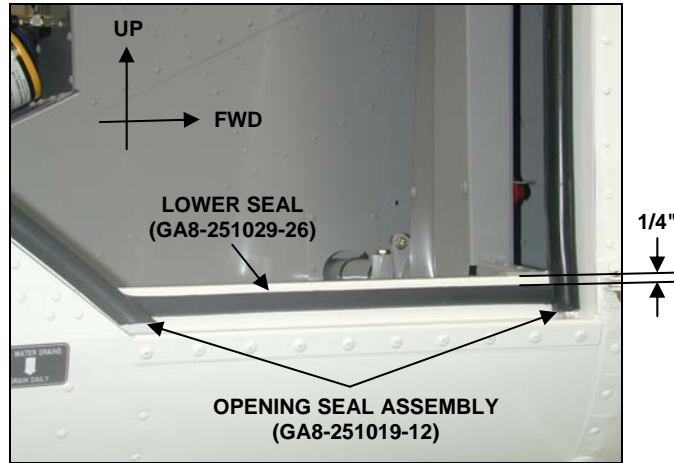

Figure 1: New seals installed in the lower section of the door opening (right hand side shown).
3. Locate and install the opening seal assembly (left hand side P/N GA8-251019-11, right hand side P/N GA8-251019-12) over the door seal angles from the lower forward to lower aft corners of the door opening, using Dow Corning Silastic 747 Silicone RTV Adhesive/Sealant as the bonding agent injected into the channel between the attach flange and D section of the seal, similar to the installation shown in Figures 1, 2 and 5. Locate and bond the seal assembly join into the upper aft corner of the door opening and the trimmed end sections flush against the outboard face of the door sill, and ensure there is a 1/8" gap between the seal ends and the bottom of the door sill. Locate the trimmed section of seal attach flange along the aft side of the door opening to clear the door striker plate, and ensure that the striker plate door locking surface is free of adhesive and there is no fouling of the door latch or locking ability. Trim the edge of the seal around the striker plate as required. Smooth the seal attach flange to remove wrinkles.
4. Locate and install the lower seal (left hand side P/N GA8-251029-25, right hand side P/N GA8-251029-26) 1/4" from the top of the door sill between the door opening seal assembly, using Dow Corning Silastic 747 Silicone RTV Adhesive/Sealant as the bonding agent, similar to the installation shown in Figure 1.
7. Figures 1 to 5 show various aspects of the installation of the new cockpit door seals (right hand side shown).